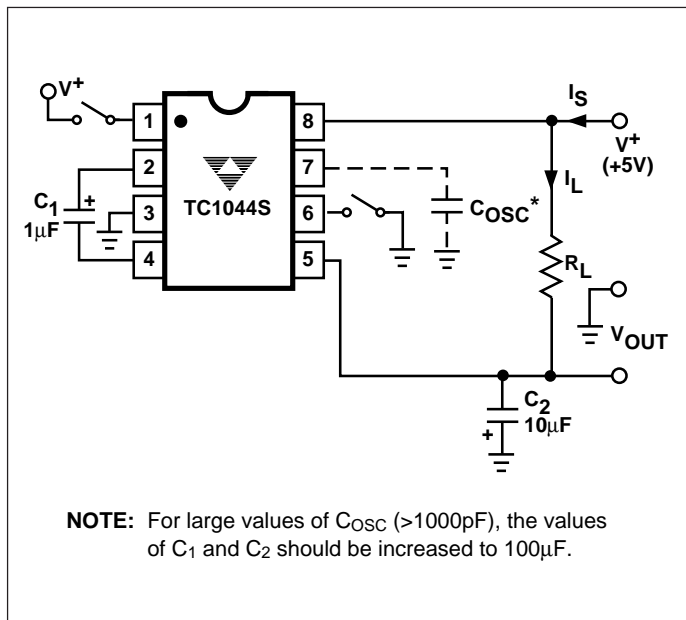

Figure 1. TC1044S Test Circuit
**ELECTRICAL CHARACTERISTICS:** TA = +25°C, V+ = 5V, COSC = 0, Test Circuit (Figure 1), unless otherwise indicated.